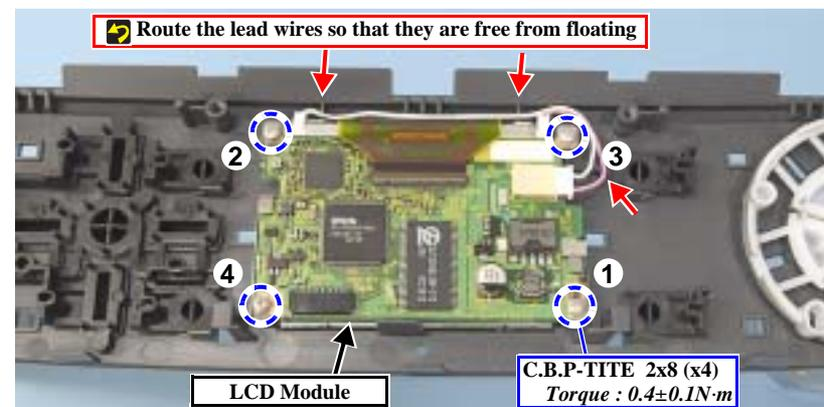

Figure 4-7. Removing the LCD Module
4. Remove the screws (x4), and remove the LCD Module. (Fig. 4-7)
- Tighten the screws for the LCD Module in the order specified. (Fig. 4-7)
- After installing the LCD Module, route the harness as shown and make sure that it is free from floating. (Fig. 4-7)